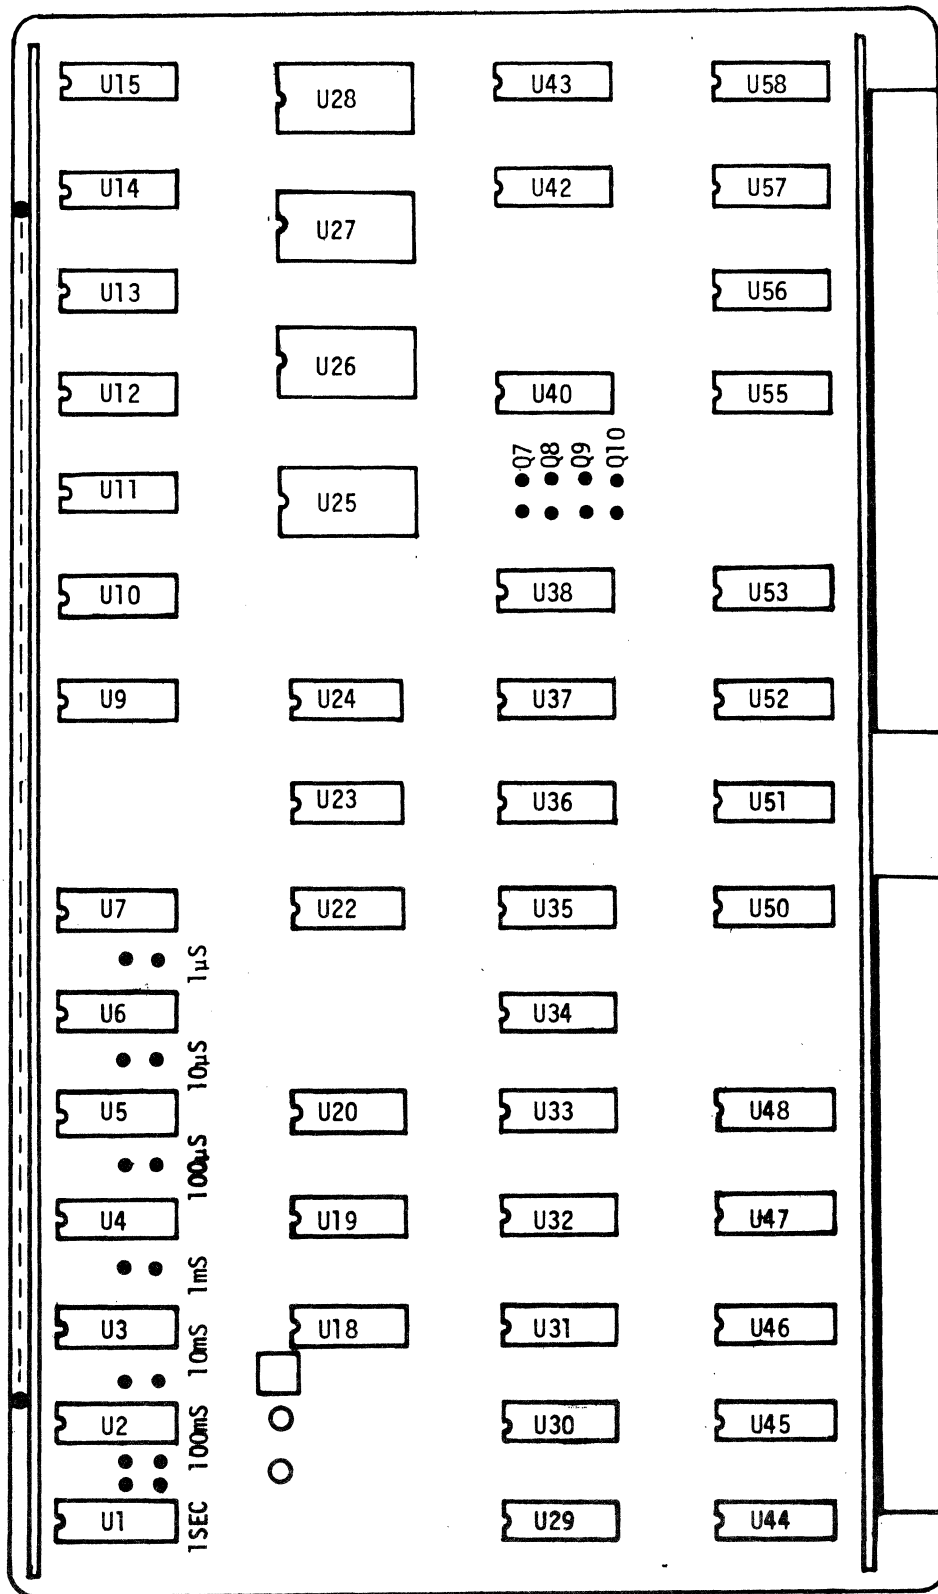

Figure 2. Locations for Internal Select Jumper Plugs on PWA
The Equipment Number and the Basic Clock Rate desired can be selected by placing the accompanying jumper plugs in the desired position on the PW as indicated in Table 1 and Figure 2.
See Tables 1 and 2, and Figure 2.
(Refer to Table 2 and Figure 2)
* See Figure 2.